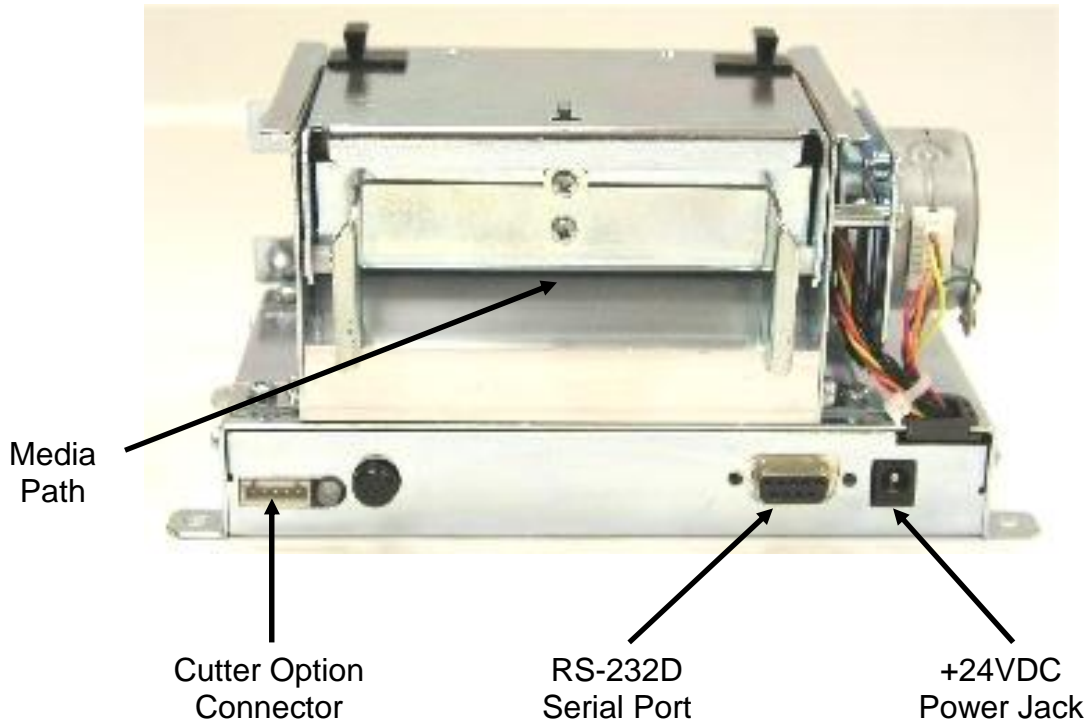

Figure 4 Connecting the Printer
Refer to Figure 4 for proper connections.
The 322M also provides a connector on the rear panel for the optional cutter interface. Use this connector (see Figure 4) when a cutter is installed on the printer. To prevent damage to the printer and/or cutter, connect the cutter when the printer power is off.
1. Feed the media into the paper path (see Figure 4), located on the back of the printer, until you feel resistance.